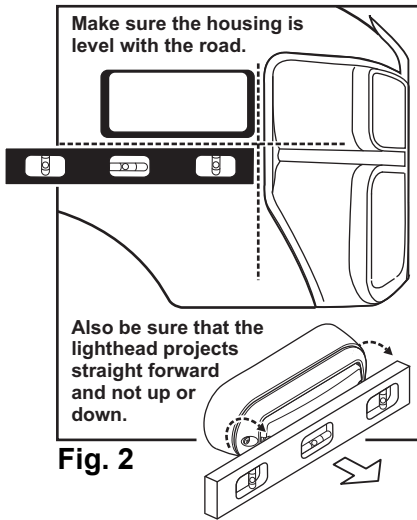

Fig. 2
2. With the housing in place use a level to make sure it sits level with the road and does not project up or down (Fig. 2). With the housing in position, mark off the 4 mounting holes using the housing as a template.